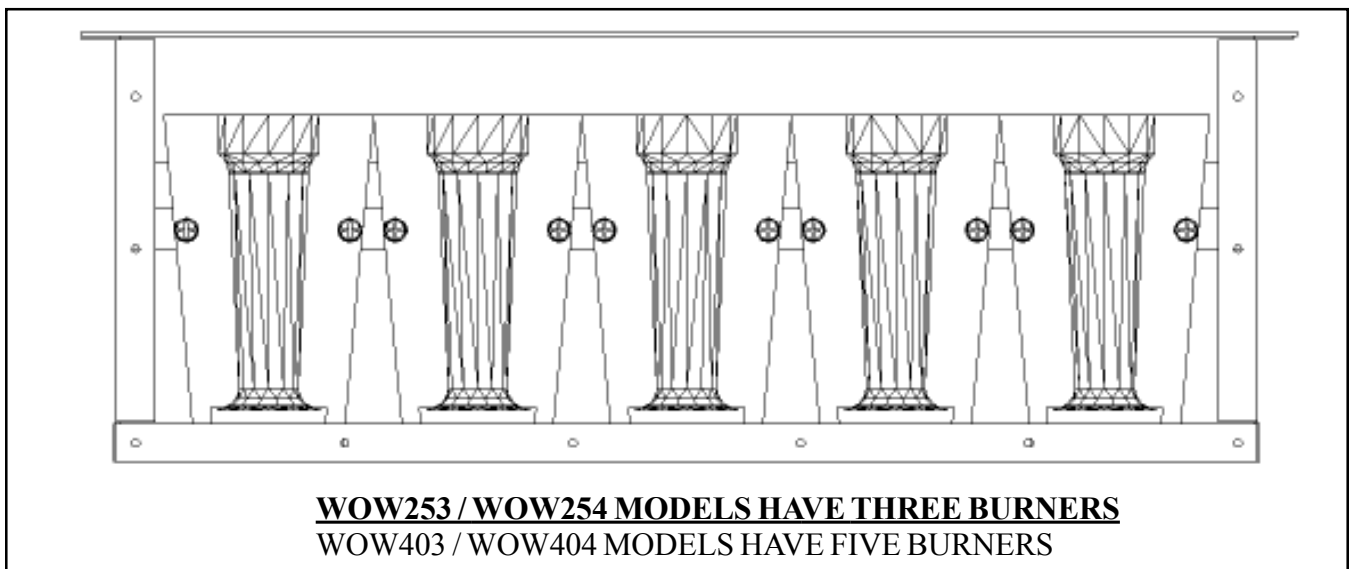

FIGURE 17
- H.) Remove two screws that secure each burner to burner mounting bracket. See Figure 17.